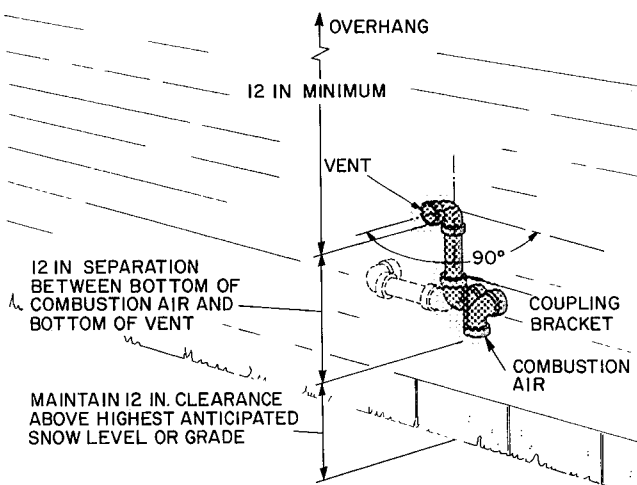

Fig. 3 — Sidewall Vent Terminal Installation (12 in. above snow level or grade)
SIDEWALL VENT TERMINAL INSTALLATION — Install kit as follows when combustion-air and vent pipes exit through sidewall 12 in. or more above highest anticipated snow level or grade (Fig. 3).
NOTE: The solid-line arrangement in Fig. 3 is preferred. The dashed-line arrangement is an option for the vent pipe only.
3. Install elbows as shown in Fig. 3. Clean them and apply cement using procedures described in Combustion-Air and Vent Piping.
4. Install bracket as shown in Fig. 3.
5. Position vent-pipe assembly, maintaining a 12-in. separation. Cement vent pipe in elbow as shown in Fig. 3.
6. For applications using vent-pipe option (indicated by dashed lines in Fig. 3), rotate elbow 90° from position shown.